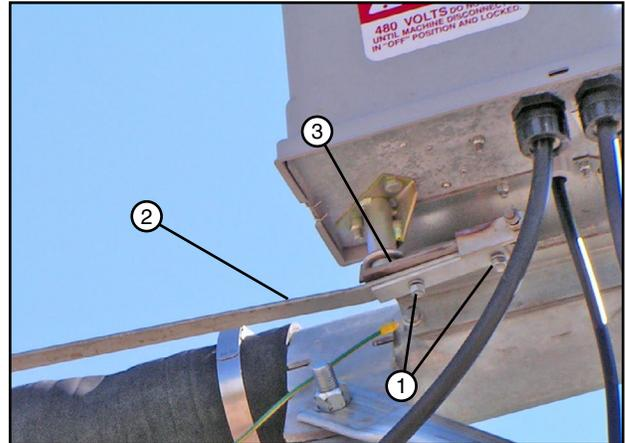

Figure 51-1 1. Hardware
1. Loosen the hardware securing control bar to the switch pivot arm. See figures 51-1 and 51-2.
2. Adjust the jam nuts clockwise or counter-clockwise no more than 1/4 of a turn at one time. See figures 51-1 and 51-2, and the adjustment chart in Figure 69-3.